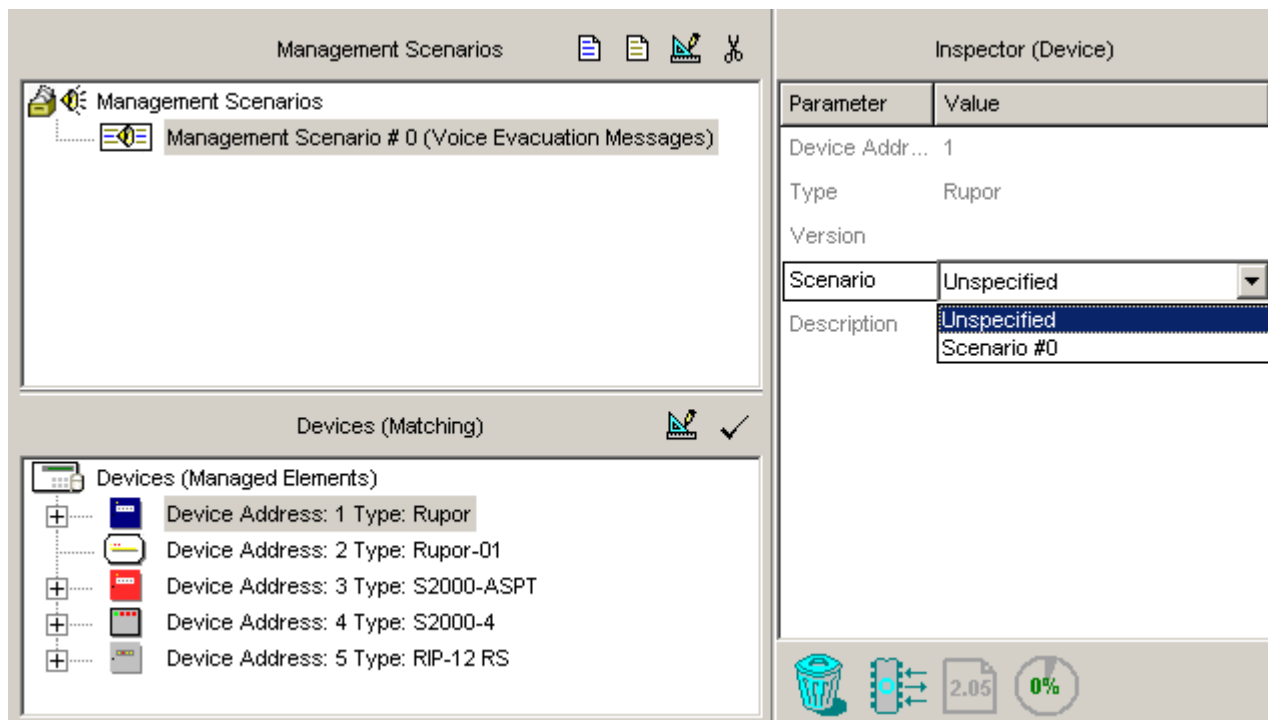

Figure 47
- ✓ *Match the created scenario with the proper Rupor or Rupor-1.* For doing this select the relevant scenario in the upper window and the proper device in the lower window, followed either by clicking the Add button  or selecting the proper value of the Scenario field in the Inspector window (see Figure 47). A single Rupor can be matched only with a single voice notification scenario, while the same scenario can be matched to several Rupor units which in such a case will be managed synchronously, as a whole.